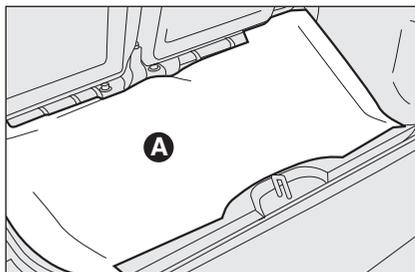

fig. 3
- lift the luggage compartment mat **A**-fig. 3;
- stow the space-saver wheel **D-fig. 3** in the space provided in the boot;